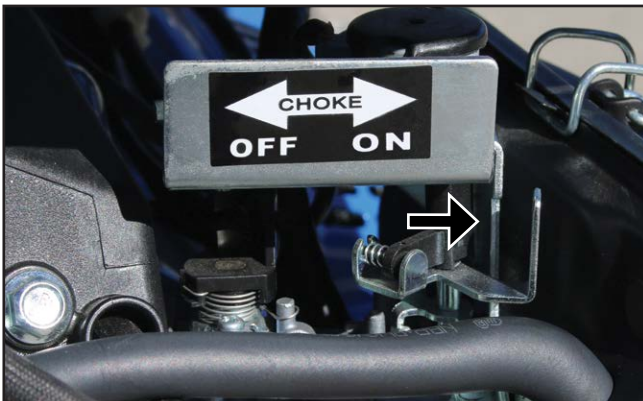

Figure 17 – Choke Lever in the ON Position
3. Move the choke lever to the **ON** position (see Figure 17) if starting a cold engine. To re-start a warm engine, leave the choke lever in the **OFF** position.